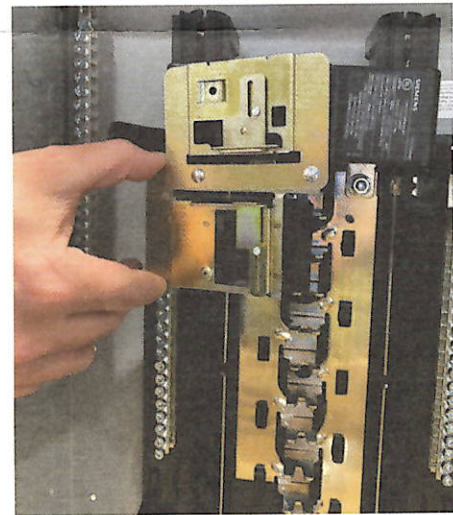

FIG. 3 Install Retaining Screw
- 5) Install Retaining Screw to mount the interlock assembly to the utility main breaker (Fig. 3). Tighten to 7-10 inch pounds.